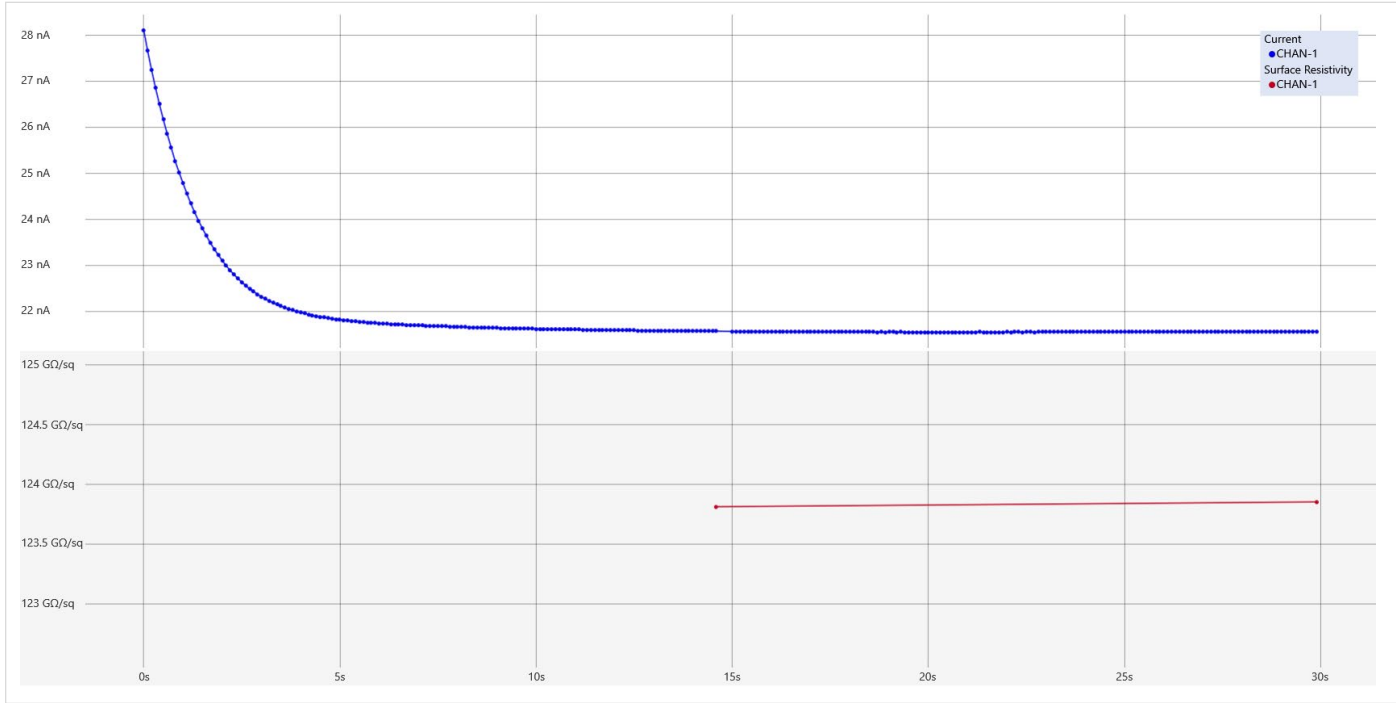

Figure 9. Current and surface resistivity measurements using the Normal (standard) test method
- Perform normal resistivity measurements as a function of time (without alternating polarity) as shown in **Figure 9**. This normal method complies with ASTM D257 standard as well as IEC-62631-3-1 standards.